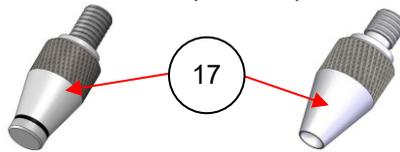

Figure 8-2 : Flat (left) and Pellet (right) anvils
- The flat anvil (Figure 8-2, left) has a self-levelling surface head and should be used for most solid and powder samples.
- The pellet anvil (Figure 8-2, right) has a concave recessed surface head designed to take round-shaped samples such as polymer beads.